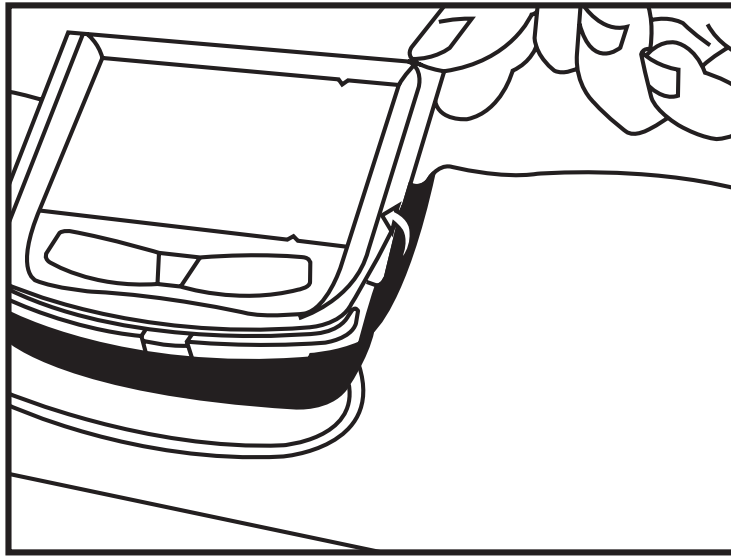

Figure 4-21. Removing the touch pad.
2. Then slide the touch pad outwards until it is lifted up and is away from the notches, as shown in Figure 4-21.